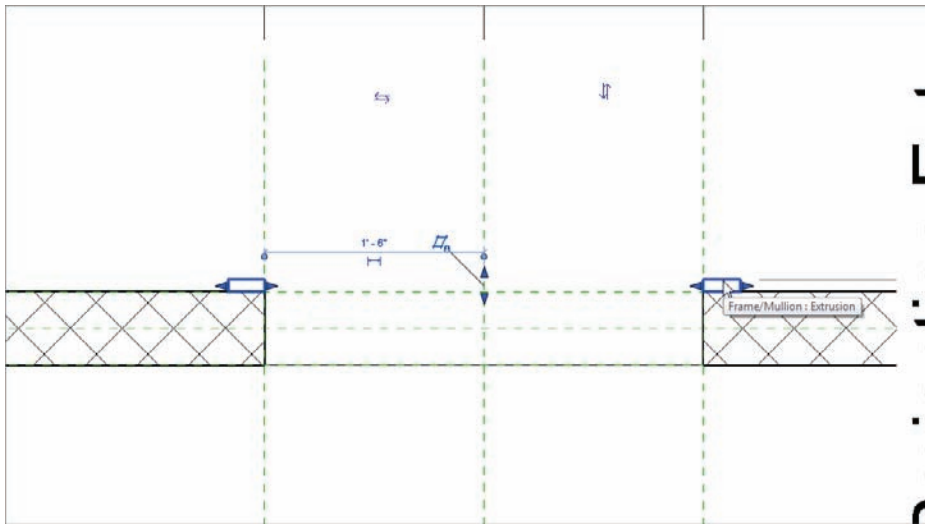

FIGURE 17.13 Deleting the jamps from either side of the door
3. The first thing you'll notice is that quite a bit of work has been done for you. This is great, but you don't need all the items in the template. Select the doorjamb, as shown in Figure 17.13, and delete them from either side of the door.